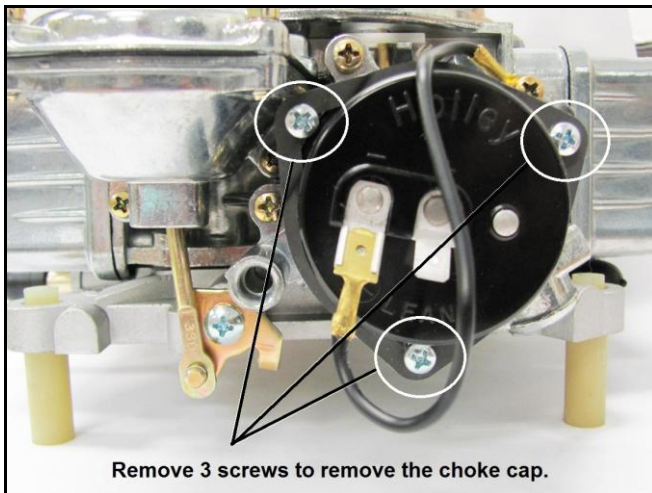
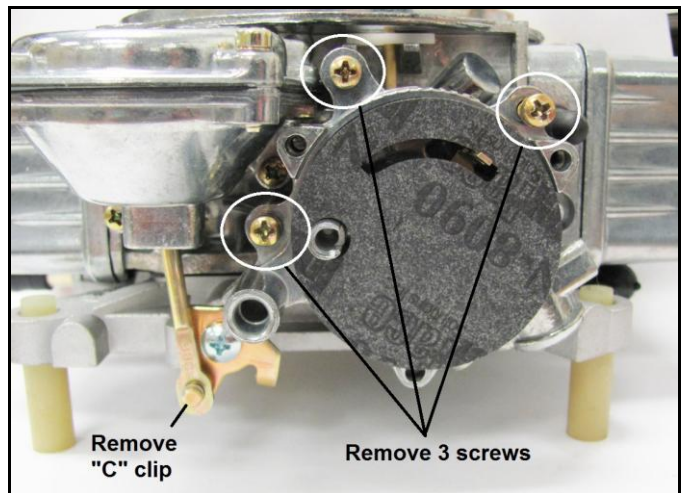

Figure 1
Figure 2
2. On carburetors with an automatic choke, remove the 3 screws that hold the choke cap (**Figure 1**). Next, remove the 3 screws that hold the choke housing to the carburetor and the “C” clip (**Figure 2**). Move the housing to the side.